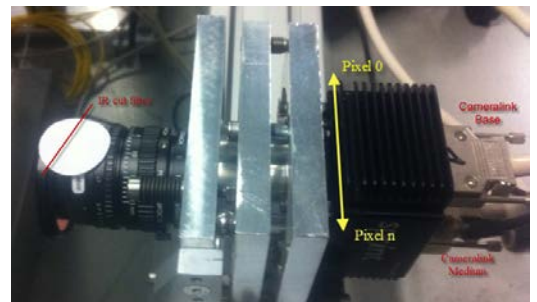

Figure 21: Default Settings (Camera Position and Transport Direction)
- If you use the default settings, realize the settings as indicated in Figure 21.
If the Camera link medium cable is connected at the upper side of the camera side (see Figure 21), pixel 0 is at the left side (see Figure 21).